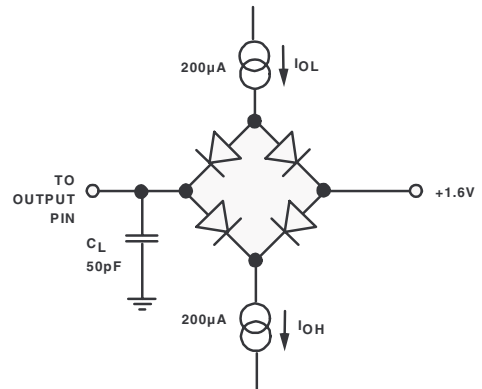

Figure 1. Load Circuit for Digital Output Timing Specifications
- 3Measured with the load circuit of Figure 1 and defined as the time required for the output to cross 0.8 V or 2.0 V.
- 4 $t_8$  is derived from the measured time taken by the data outputs to change 0.5 V when loaded with the circuit of Figure 1. The measured number is then extrapolated back to remove the effects of charging or discharging the 50 pF capacitor. This means that the time,  $t_8$ , quoted in the timing characteristics is the true bus relinquish time of the part and is independent of the bus loading.